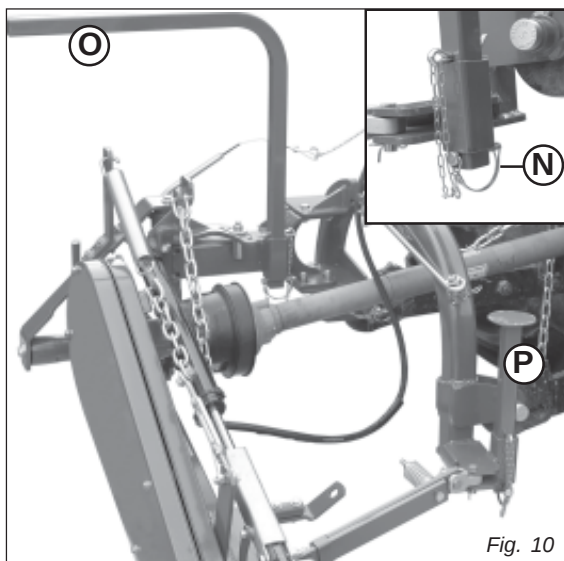

Fig. 10
8. Remove spring locking pin (N, Fig. 10) from parking stand.
9. Remove support (O and P, Fig. 10) and remount them, upside-down in their seat .
10. Fasten with spring locking pin (N, Fig. 10).